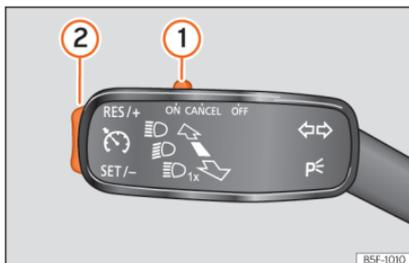

Fig. 223 On the turn signal lever: controls for operating the GRA.
- Move the control »» Fig. 223 ① to **ON**.
- Press button »» Fig. 223 ② in area **SET/-**.
- Move the control »» Fig. 223 ① to **CANCEL** or step on the brake.
- Press button »» Fig. 223 ② in area **RES/+**.
While the GRA is set, the stored speed can be adjusted with button »» Fig. 223 ②:
- To increase in increments of 1 km/h (1 mph) briefly press button »» Fig. 223 ② in the area **RES/+**.
- To increase the speed without interruption, keep button »» Fig. 223 ② pressed down in the area **RES/+**.
- To reduce in increments of 1 km/h (1 mph) briefly press button »» Fig. 223 ② in the area **SET/-**.
- To reduce the speed without interruption, keep button »» Fig. 223 ② pressed down in the area **SET/-**.
- Move control »» Fig. 223 ① to **OFF**.